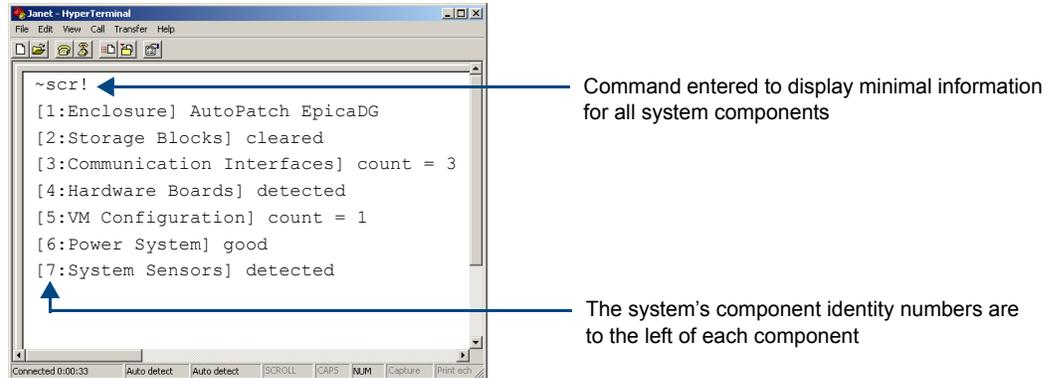

FIG. 39 Example of a default Epica DGX 144 splash screen
- If both settings are omitted during a query (`~scr!`), the information displayed will be at the lowest verbosity level for all components (`v0i0`) (FIG. 39 on page 93).
Note: *Either of these commands provides a “menu” of the identity numbers and their corresponding components (FIG. 39 on page 93).*